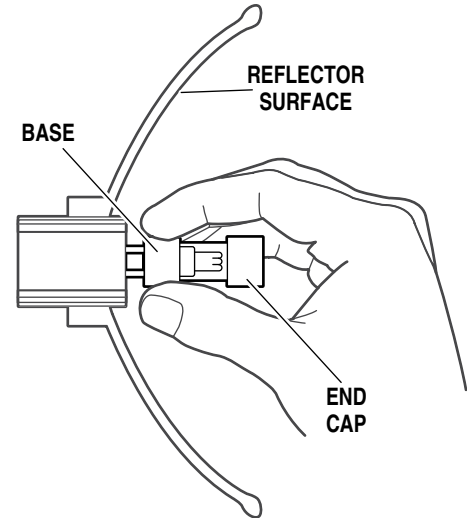

Figure 2-2.
3. Using caution not to touch the reflector surface, hold the bulb by the base and pull it out. See figure 2-2. Slightly working the bulb back and forth may aid in bulb removal.